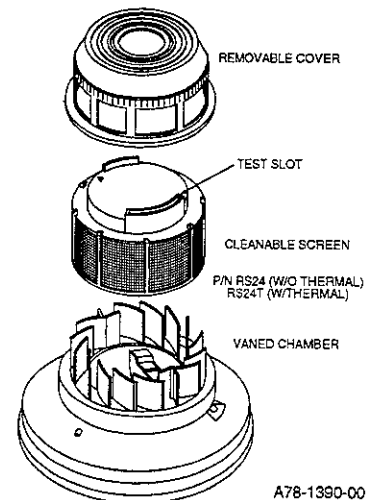

Figure 5.
2. Insert the NO ALARM end of the test card fully into the test slot (See Figure 5) then slide it counterclockwise until it stops.